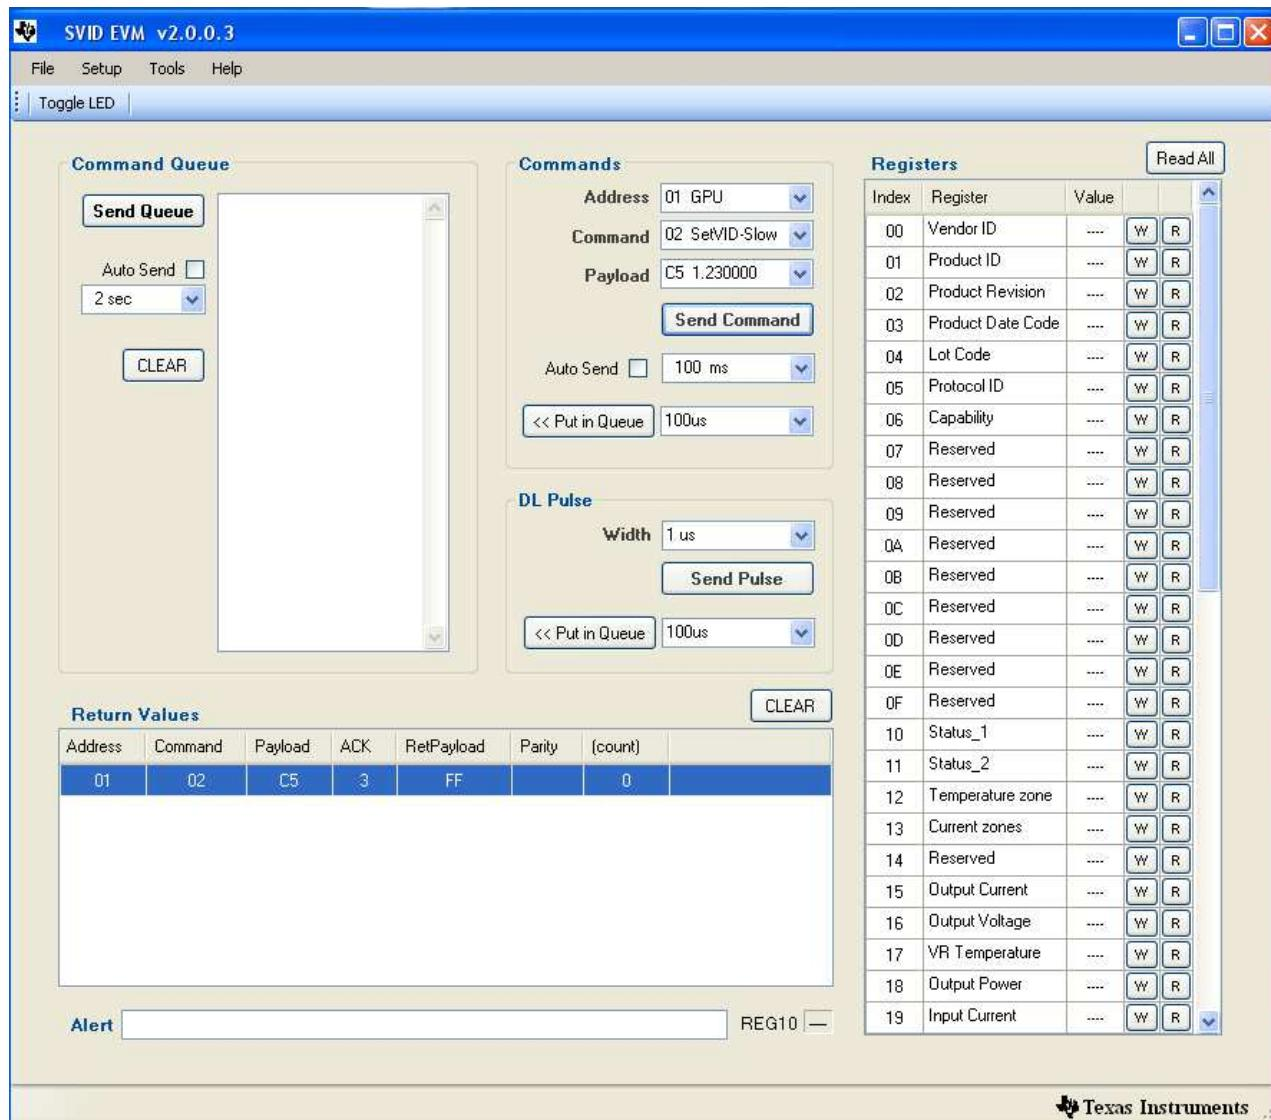

Figure 6. TPS59650EVM-753 GPU GUI set up Window
5. Click “send Command” and GPU GPOOD LED will light up, See the GUI window as Figure 6.